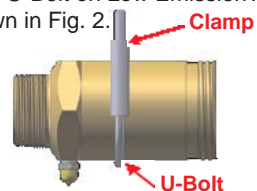

Fig. 2
4. Remove Nuts and Clamp from U-Bolt and position U-Bolt on Low Emission Acme Adapter, as shown in Fig. 2.